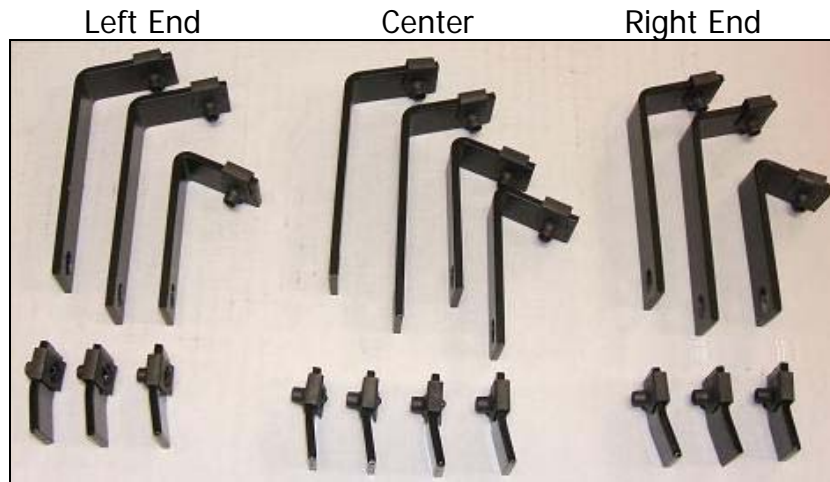

Figure 1
1. Sort and install the U-Nuts to the brackets as shown in Figure 1.